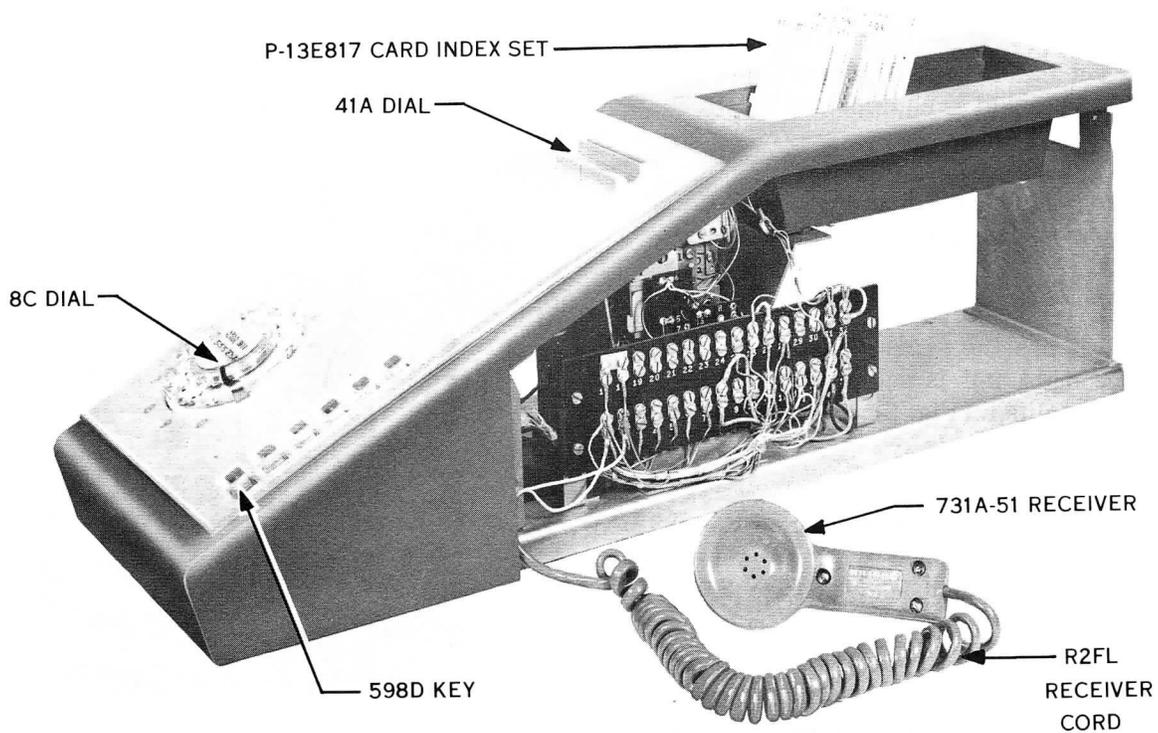

Fig. 6 — 689D Subscriber Set
2.06 This set (Fig. 6) is the same as the 689A except it is equipped with an automatic card dialer and card set holder. (See 2.08 for ringer modification.)